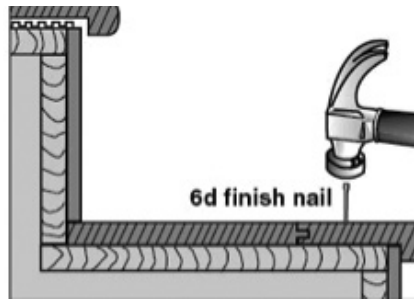

Fig. 17
7. Apply a bead of construction adhesive in a 3" (7.6 cm) serpentine pattern to the back of the cut piece of stair nose and affix to the stair. (On wood subfloors, drill appropriate size holes into the installed stair nose and anchor with 6d finish nails (Fig. 17). Set nails using a nail punch. Fill holes with a repair stick).